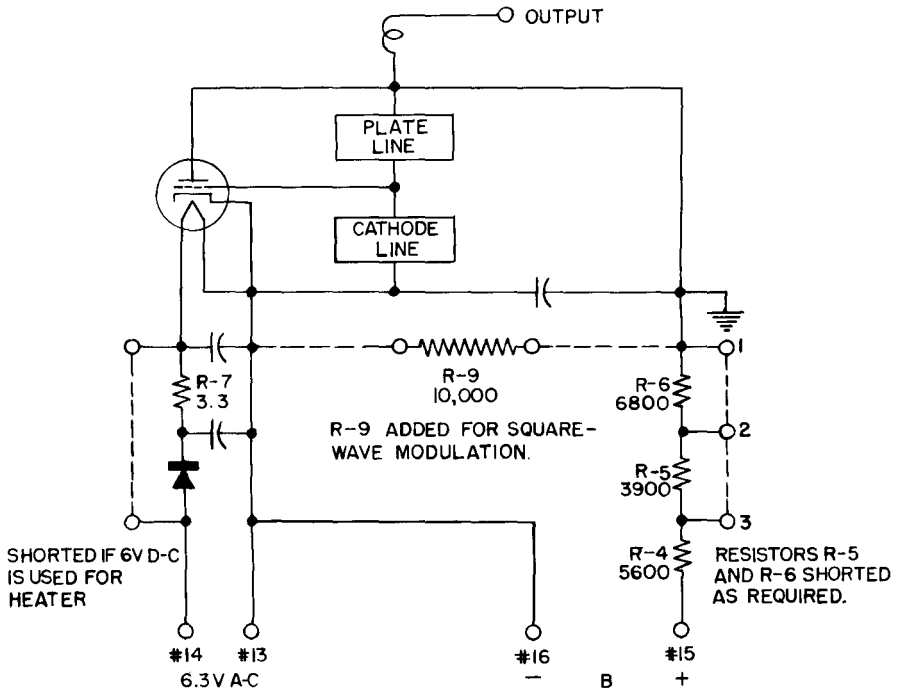

Figure 2. Simplified Heater and Plate Supply Wiring Diagram.
2.3 POWER SUPPLY. A wiring diagram of the oscillator is shown in Figure 10. A simplified wiring diagram for heater and plate supply is shown in Figure 2. Like other Unit Oscillators, the Type 1218-A works best from a 300-volt power supply with about one half this voltage on the plate of the oscillator tube. The large plate series resistor required for this operation helps stabilize the oscillator and protects the tube from overloads. To avoid complications in the rf output circuit, the B supply is grounded at the plate potential of the oscillator tube. To reduce undesirable fm, if 6.3-volt ac heater power is used, a rectifier and filter for the cathode heater voltage have been included. One of the small GR Unit Power Supplies will be satisfactory for most uses. These power supplies all have 300-350 volts plate voltage under load and 6.3 volts ac for the heater. For stable operation, good regulation and low hum voltages are essential. A one-percent change in plate voltage changes the oscillator frequency approximately 20 parts per million; a one-percent change in heater voltage approximately 50 parts per million. If the heater of the oscillator is operated from 6.3-volt, 60-cycle ac power and rectified and filtered by the built-in circuit, noise modulation of the oscillator frequency has a peak deviation of the order of 4000 cps or 2 parts per million. This deviation can be reduced by an order of magnitude if a battery is substituted for the rectified supply. Small hum voltages in the plate supply are attenuated considerably by the large plate circuit series resistor mentioned previously and by a bypass condenser in the oscillator. These voltages do not contribute noticeably to fm noise modulation unless a battery is used for the heater. Fm noise due to vibration and microphonics can readily be kept below these values.